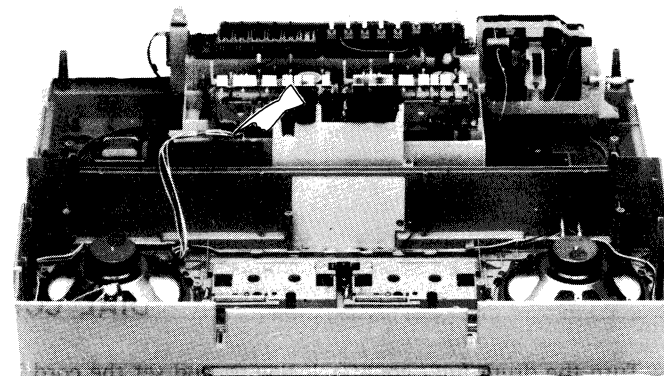

Figure 5-3
4. Hold up the front cabinet, and remove one socket from the power P.W.B. See Fig. 5-3.